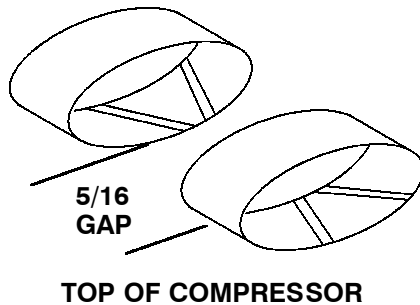

Figure 3-14. Seal End Main Bearings
1. When installing new seal end main bearings the oil groove is on top of the compressor with V grooves pointing to each other. When installed, there must be a 5/16 inch (7.93 mm) gap between the two bearings (See Figure 3-14).